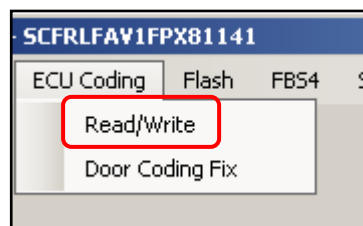

Figure 1
9. Select "Read/Write" from the "ECU Coding" drop-down list (refer to Figure 1).